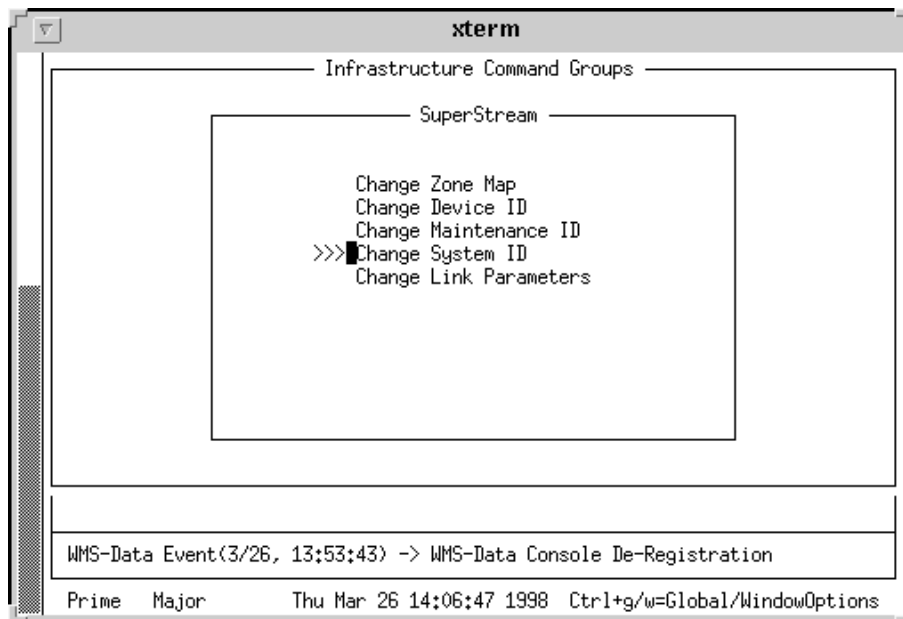

Figure 4-8: SuperStream Menu—Change System ID
1. From the SuperStream menu, use the <tab> to position the cursor to the left of the listing Change System ID and press: <Return> (see Figure 4-8).